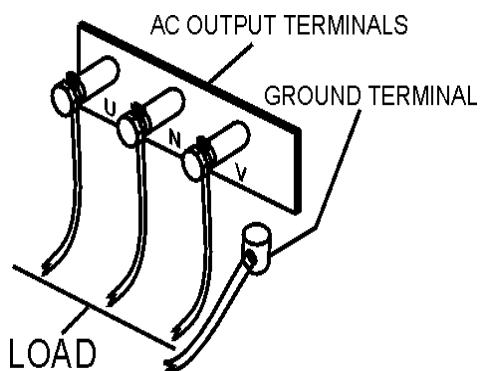

Figure 20. UNV Terminal Lugs (Load)
2. Once it is determined if commercial power is required, connect the load to the UNV terminals as shown in Figure 20. These terminals can be found on the output terminal panel, see page 36 Figure 12. To gain access to the output terminals lift the UNV cover. Make sure to tighten terminal nuts securely to prevent load wires from slipping out.
6. Remove the load from the UNV terminal strip (Figure 20).